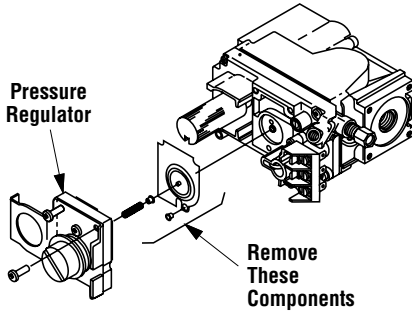

Figure 60
Step 5. - SIT Systems - Refer to **Figure 60** and the instructions provided with the kit. Using a Torx T20 (with 1/4" shank and center hole), tool or standard flat screwdriver remove and discard the three pressure regulator mounting screws. Remove the pressure regulator, spring, poppet, diaphragm and bushing. **Discard all removed components.**